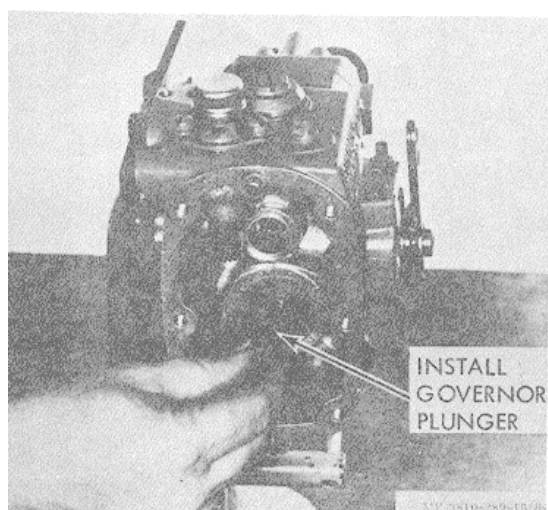

Figure 3-30. Governor plunger, installation.
(8) Governor plunger. Lubricate and install the plunger into barrel, figure 3-30. Make sure plunger is correct fit and correct number if replaced. Remark governor barrel if oversize plunger is used, so size of barrel and plunger correspond.
(9) Drive cover assembly.